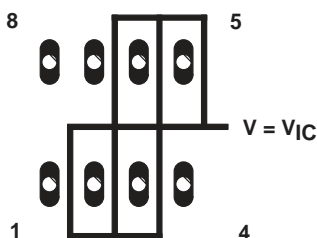

Figure 29. Isolation Metal Around Device Inputs (P package)
1. Isolate the device from other potential leakage sources. Use a grounded shield around and between the device inputs (see Figure 29). Leakages that would otherwise flow to the inputs are shunted away.
Because of the extremely high input impedance and resulting low-bias current requirements, the TLC2810Z is well suited for low-level signal processing; however, leakage currents on printed-circuit boards and sockets can easily exceed bias-current requirements and cause a degradation in device performance. It is good practice to include guard rings around inputs (similar to those of Figure 29 in the Parameter Measurement Information section). These guards should be driven from a low-impedance source at the same voltage level as the common-mode input (see Figure 33).